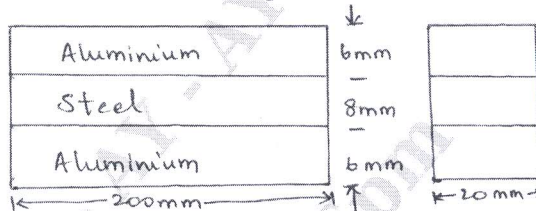

Fig.Q.2(b)
b. A flat steel bar 200mm × 20mm × 8mm is placed between two aluminium bars 200mm × 20mm × 6mm. So as to form a composite bar as shown in Fig.Q.2(b).